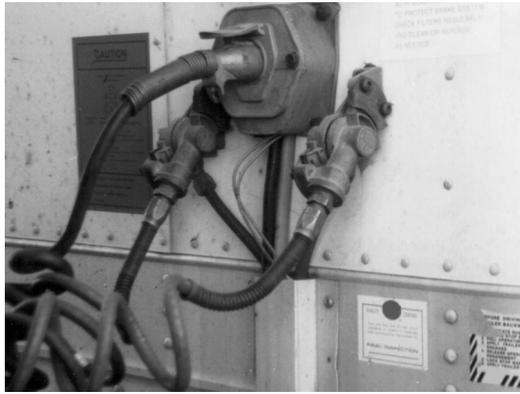

Figure 11: Trailer connections
25. **Complete final checks** of the suspension and brake system by supplying air to the trailer (Figure 11).